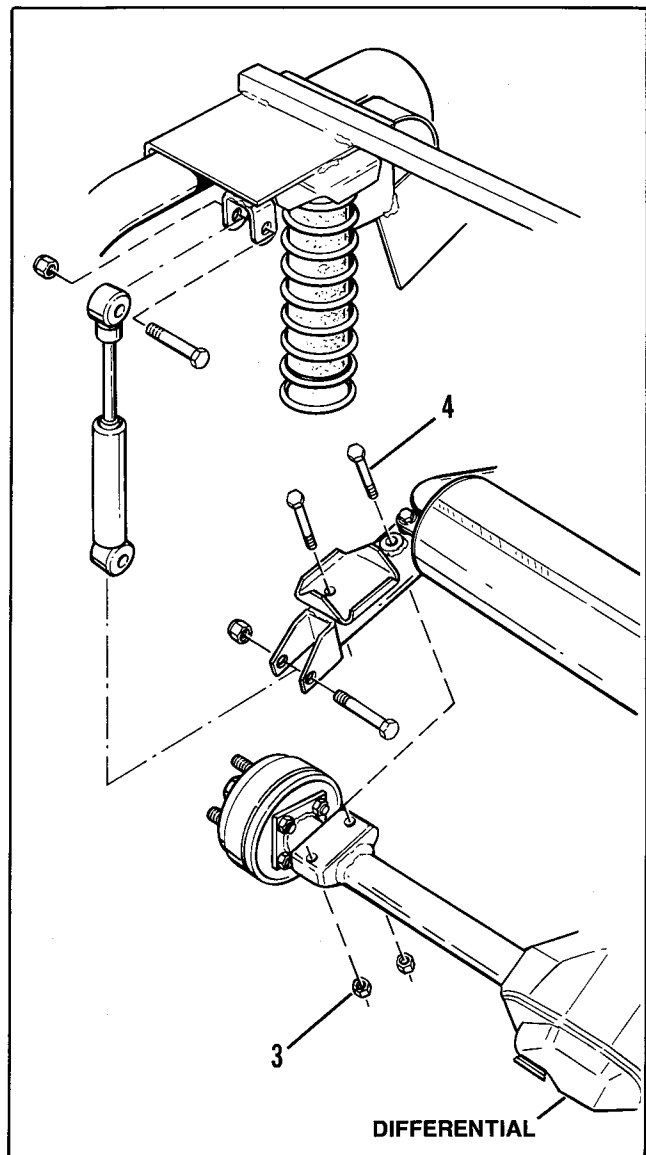

Figure 4-3 – Remove Differential Assembly
- Remove four locknuts (3) and four bolts (4), Figure 4-3. When reinstalling four locknuts (3), torque to 30 ft.-lbs. (4.1 kgm) and lower differential and frame.